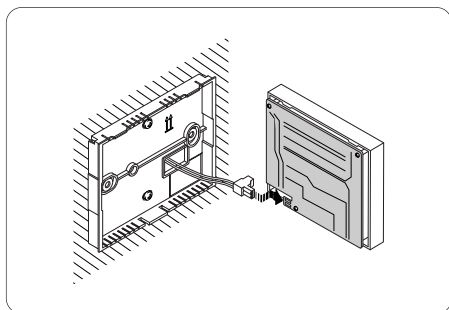

Fig. 29
- **to view the Password**, remove the power supply connector from the printed circuit (fig. 29);
- If a horizontal line appears on the display, remove the power supply connector from the printed circuit (fig. 29) and reinsert it after at least 30 seconds have elapsed.